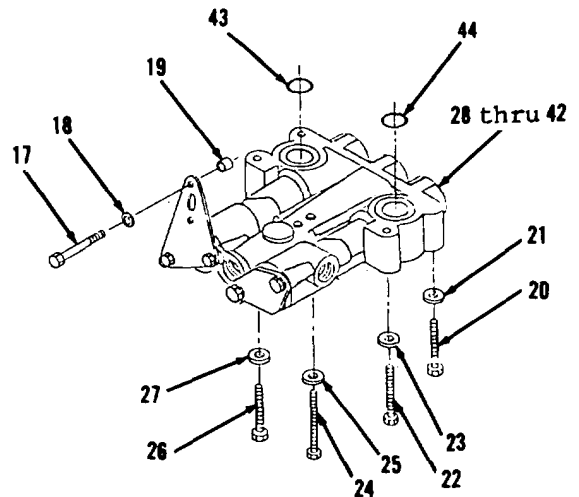

Figure 3-77.
3. Remove bolts (10 and 11), washer (12), clip (13), tube (14), gasket (15) and preformed packing (16). Discard gasket (15) and preformed packing (16). Remove all gasket material from mounting surfaces.
4. Remove two bolts (17), washers (18) and spacers (19, Figure 3-77).
5. Remove bolt (20), washer (21), bolt (22), washer (23), bolt (24), washer (25), bolt (26) and washer (27).
6. Remove items 28 thru 42 as an assembly.